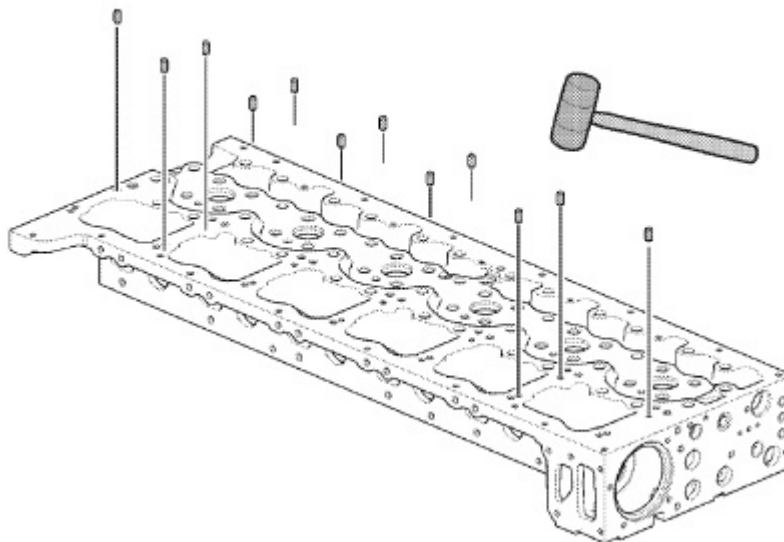

Figure 2. Install Locating Dowel Pins
- Install the 12 locating pins from the parts kit at the cylinder head locations shown in Figure 2. Use a plastic mallet so as not to damage the locating pins.